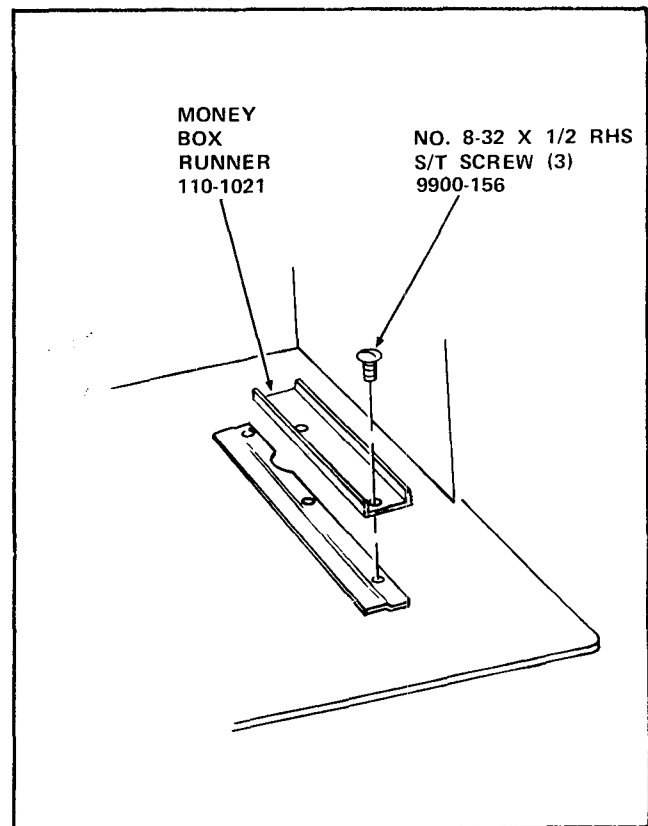

FIGURE 7-7
44. Remove two Screws from the Mechanism Sidewall "Z" Section in the lower right corner of the Merchandiser and install the Money Box Runner, Part Number 110-1021 included in the Kit, on top of the Mechanism Sidewall "Z" Section already in the Merchandiser. Attach using two No.8-32 x 1/2 RHS Self Tapping Screws, Part Number 9900-156, included in the Kit. See Figure 7-7.